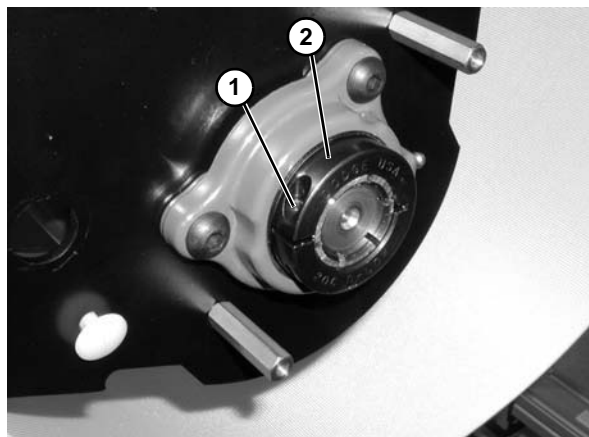

Figure 121
9. Loosen clamp screw (**Figure 121, item 1**) and remove bearing collar (**Figure 121, item 2**).